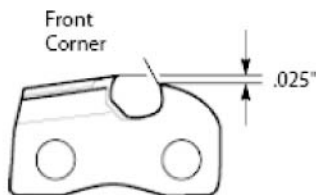

Fig.18
3. Remove depth gauge tool. With flat file, round off front corner of cutter depth gauge (See Fig.18). After several hand filings, have authorized service center or sharpening service machine sharpen chain. This will insure even filing.